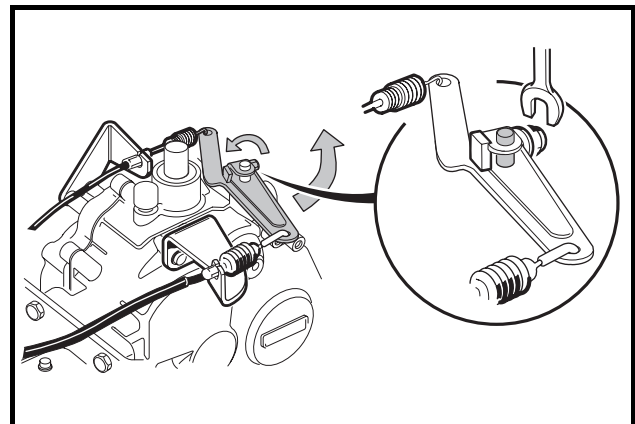

Figure 19-36 Governor Arm
8. Install governor lever arm on governor shaft (**Figure 19-36, Page 19-14**).
- 8.1. With the governor lever arm loose on the governor shaft, turn the governor arm shaft counterclockwise until it stops. Then pull the governor lever arm rearward until the carburetor throttle is in the “wide open throttle” (WOT) position (**Figure 19-36, Page 19-14**).
- 8.2. While holding the arm and shaft in the fully counterclockwise position, tighten the governor arm lever nut to 35 in-lb (4.0 N·m) (**Figure 19-36, Page 19-14**).